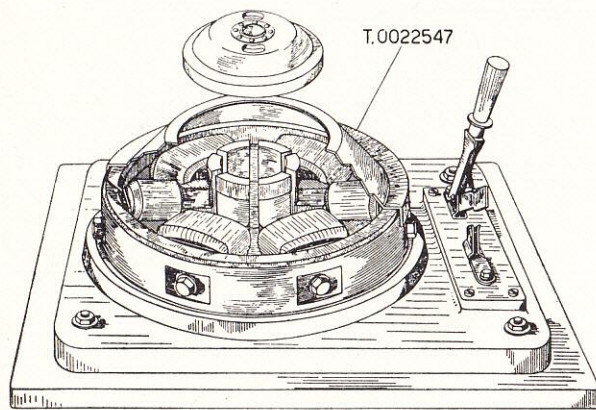

Fig. 78.
2. Place the rotor into the magnetising fixture, drg. No. 0022547 (see Fig. 78) so that one of the three **south** poles of the latter covers completely the pole piece of the rotor opposite to the key way on the cam.